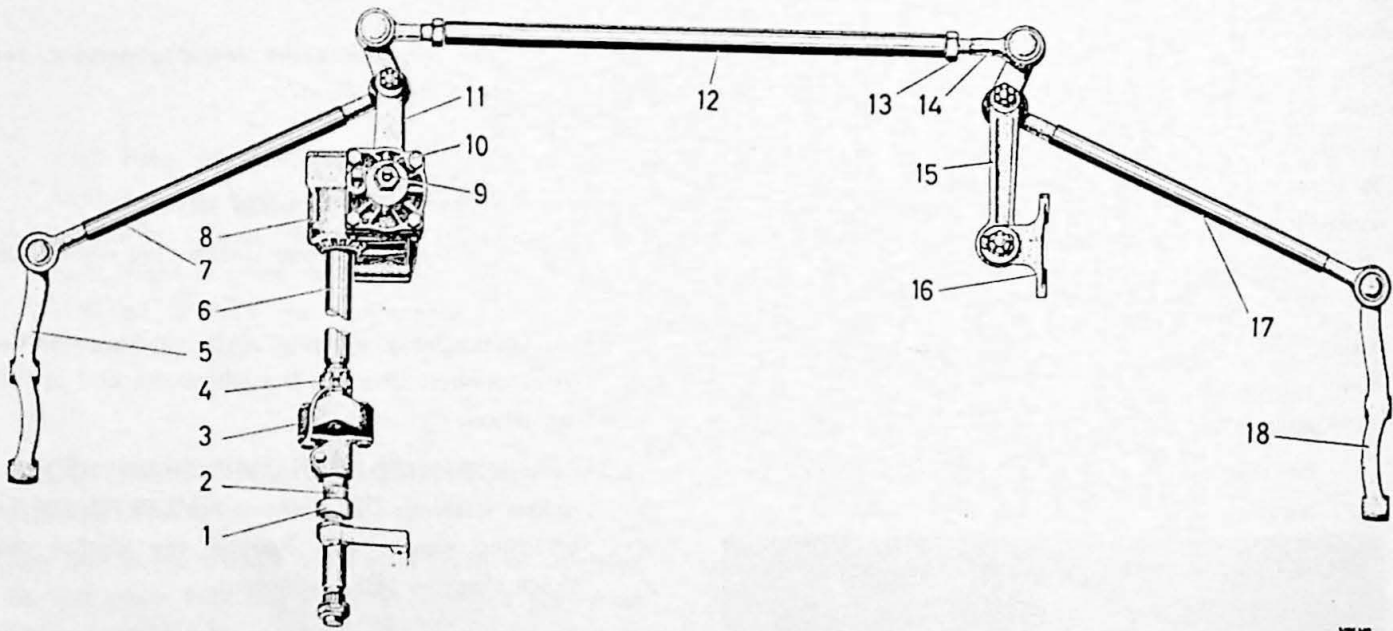

Fig. 6-16. Steering gear
The arrangement of the steering gear on the Volvo P 1800 is shown in figures 6-16—6-18.
bearings. The steering shaft is divided into two parts (2 and 6 respectively, Fig. 6-16) which are joined together by means of a coupling (3). The upper part of the steering shaft is carried in the jacket tube (1). The steering rod ball joints are lined with plastic which makes lubrication unnecessary.